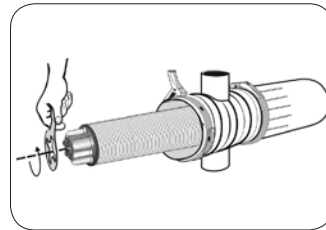

Figure 3
- Unscrew the butterfly nut on the filtration element (Figure 3).